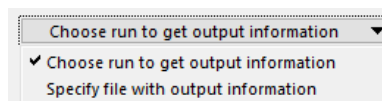

Figure 3. Options for getting output information.
- ⑥ Drop-down control to choose between two options for obtaining information about available output variables (Figure 3).